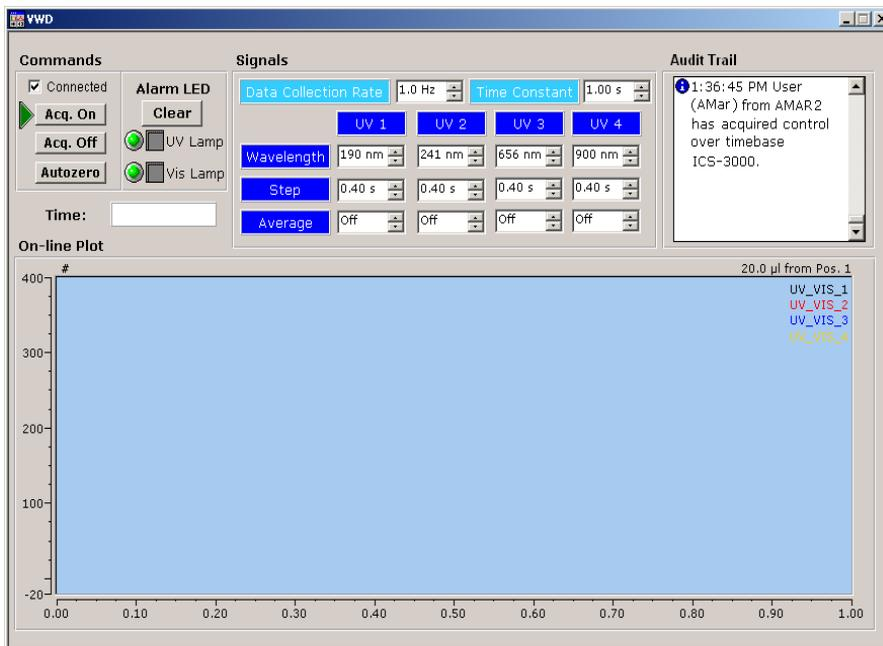

Figure 3-2. Example Dionex VWD Control Panel in Chromeleon 6.8
- d. To display the detector ePanel, click the **VWD** tab on the ePanel Set (see Figure 3-2).
- c. To display the Dionex VWD Control panel, select the **VWD** tab on the panel tabset (see Figure 3-2).